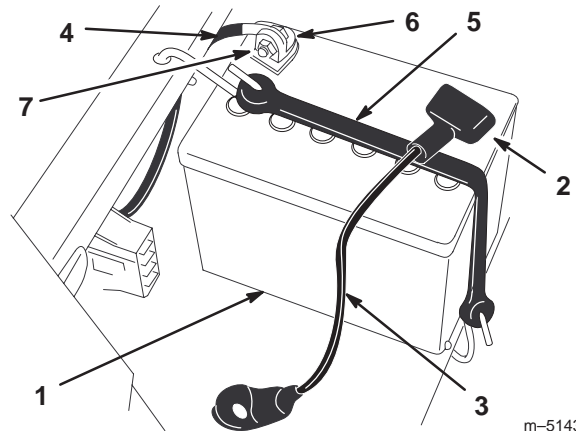

Figure 44
3. Disconnect the negative (black) ground cable from the battery post (Fig. 44).
4. Slide the rubber cover up the positive (red) cable. Disconnect the positive (red) cable from the battery post (Fig. 44).
5. Remove the battery hold-down (Fig. 44) and lift the battery from the battery tray.
1. Position the battery in the tray with the terminal posts away from the control panel (Fig. 44).
4. Secure the cables with 2 bolts (1/4 x 3/4 in.), washers (1/4 in.), and nuts (1/4 in.) (Fig. 44).
6. Secure the battery with the hold-down (Fig. 44).